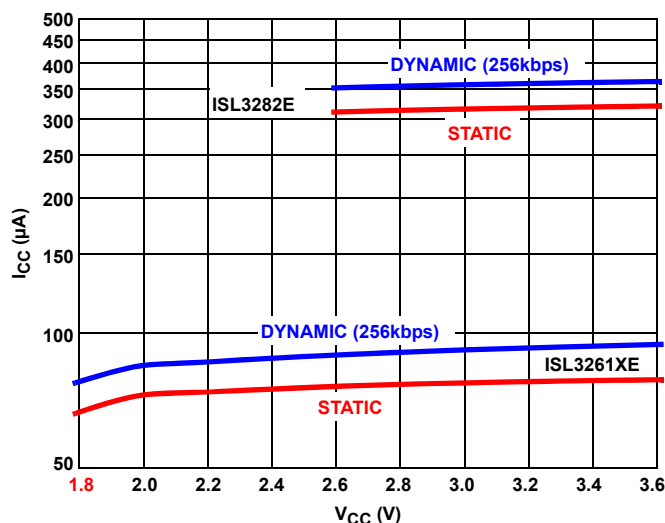

FIGURE 1. ISL3261XE REDUCES OPERATING I_{CC} BY A FACTOR OF 4 FROM PREVIOUS GENERATION RECEIVER ICs, AND OPERATES WITH SUPPLY VOLTAGES AS LOW AS 1.8V
The ISL32610E, ISL32611E, ISL32612E are ±16.5kV IEC61000 ESD protected, fractional unit load (UL), 1.8V powered, single differential receivers (Rx) for balanced (e.g., RS-485) data communication. With their 85µA supply currents, these receivers are optimized for low power applications, and deliver the lowest supply currents of any available single Rx IC (see Figure 1).